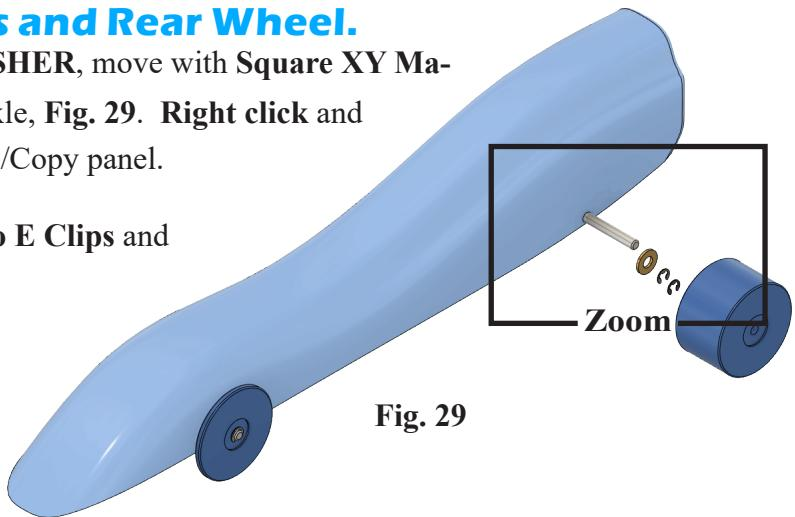

Fig. 29
Step 1. From the Data Panel insert WASHER, move with Square XY Manipulator over to Rear Axle, Fig. 29. Right click and click OK  to close Move/Copy panel.
Step 2. Repeat and insert and move two E Clips and Rear Wheel, Fig. 29.
Step 4. Zoom in on the Rear Axle and inserted components, Fig. 29.